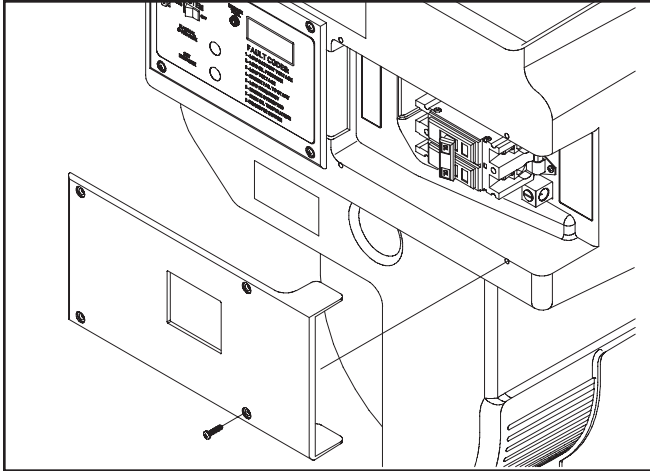

Figure 14 — Accessing Back of Circuit Breaker
2. Remove the four screws that hold the circuit breaker cover to the air intake guard (Figure 14).